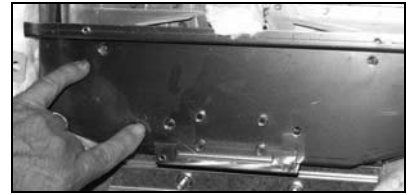

Figure 1
9. Remove four screws on the collector insulation plate (see Figure 1).